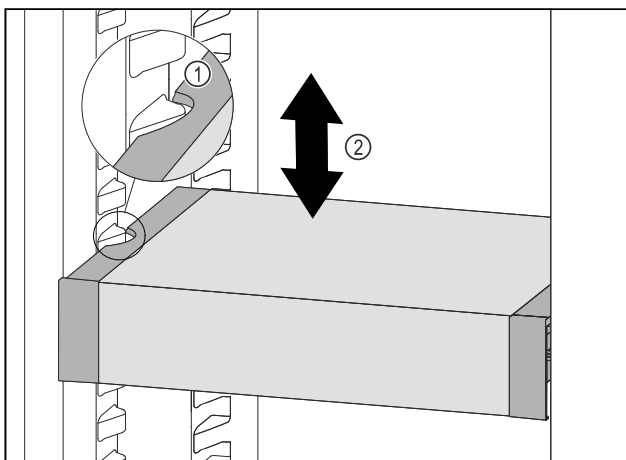

Fig. 77
- ▶ Pull VarioSafe forwards until the recesses in the side of the VarioSafe are at the level of the support rib in the refrigerator compartment. Fig. 77 (1)
- ▶ Move VarioSafe up or down in the refrigerator compartment until the desired height is reached. Fig. 77 (2)